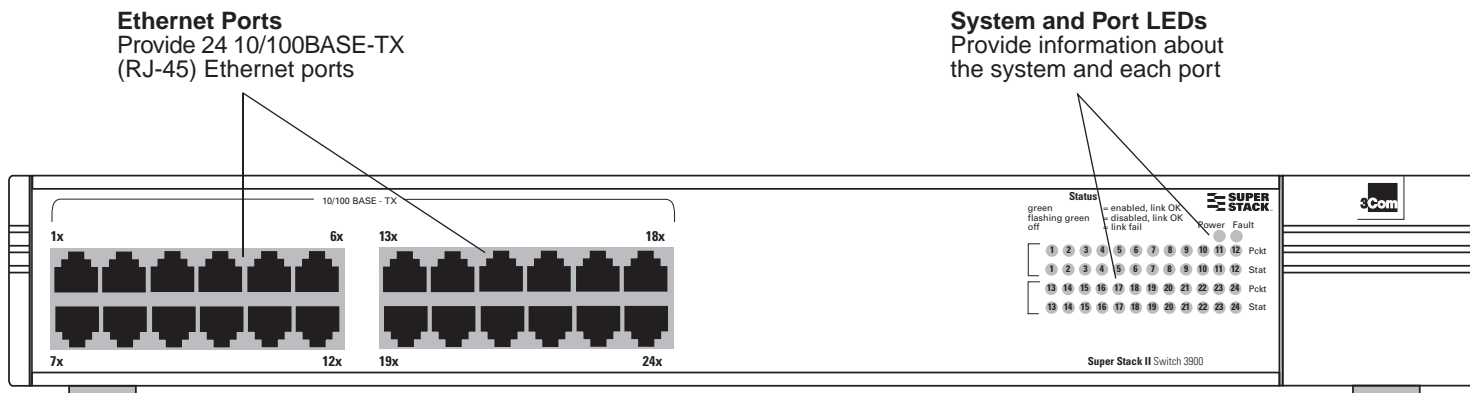

Figure 1-1 Front Panel of the 24-Port SuperStack II Switch 3900
- **3C39024** — The 24-port 10/100BASE-TX switch, with up to three Gigabit Ethernet links. See Figure 1-1.